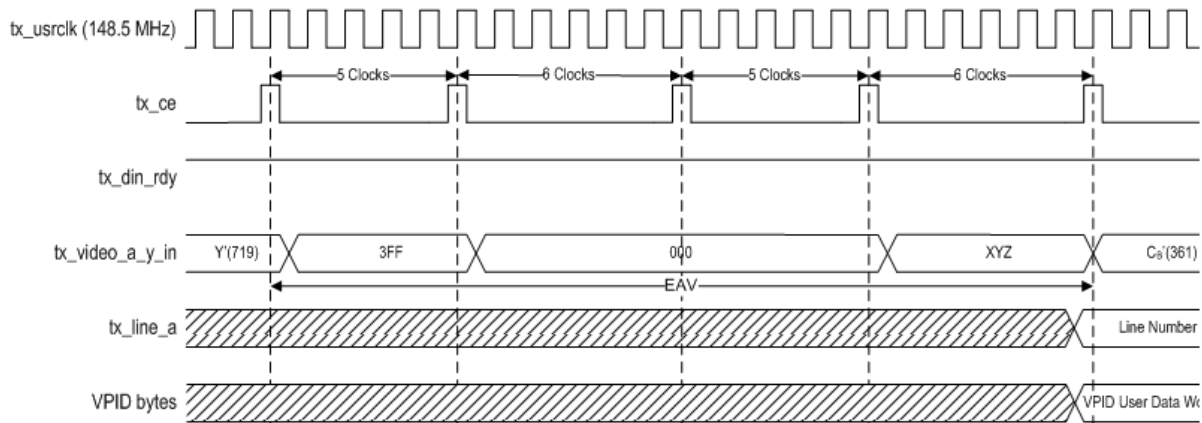

Figure 3-7: SD-SDI TX Timing
When operating in SD-SDI mode with a transceiver in a Xilinx FPGA, the `tx_usrclk` has a frequency of 148.5 MHz because the transceiver runs at 11 times the 270 Mb/s SD-SDI bit rate. The interleaved Y/C data stream is connected to the `tx_video_a_y_in` port of the SMPTE SD/HD/3G-SDI core. The `tx_ce` clock enable input of SMPTE SD/HD/3G-SDI core must be asserted at a 27 MHz rate, as shown in Figure 3-7. This means that `tx_ce` must be asserted with a 5/6/5/6 clock cycle cadence. Any other cadence of the `tx_ce` signal causes the SD-SDI bit replication logic to underflow or overflow. The `tx_din_rdy` port must always be held High in SD-SDI mode.
1. All inputs except `tx_ce` have an entire sample time in which to become stable. Data is only sampled on the inputs on the rising edge of `tx_usrclk` when `tx_ce` is High. The sample time is the time between rising edges of `tx_usrclk` when `tx_ce` is High. As shown in Figure 3-7, the `tx_ce` signal must always have a 5/6/5/6 clock cycle cadence. Any other cadence underflows or overflows the SDI bit replication logic. Although Figure 3-7 shows that the first word of the EAV is a 5-clock cycle sample, there is no such relationship required. The first word of the EAV could instead be a 6-clock cycle sample.